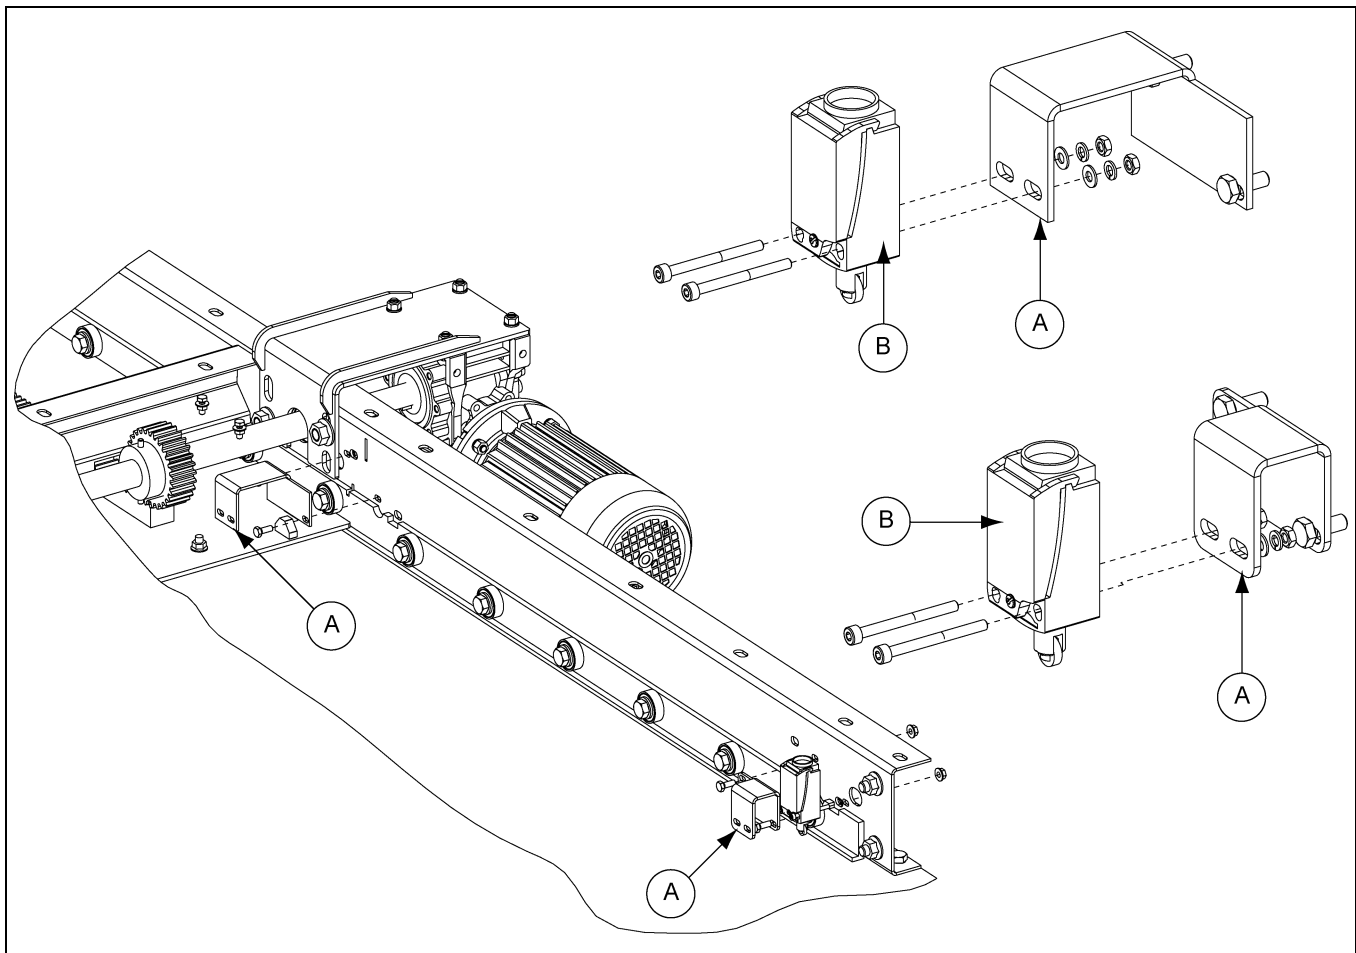

Figure 3J Installing the Limit Switch
1. Using limit switches that are available in STD and ATEX or explosion proof standards, achieves accurate positioning of these gates. Limit switches (B) are located on both sides of the frame to detect when the gate is completely open or closed. (See Figure 3J.)
2. Attach the switch brackets (A) to the inside of the gate as shown using hardware provided. (See Figure 3J.) Attach limit switch (B) to the bracket as shown in Figure 3J.
4. Disconnect the power at the electrical panel and run the proper gauge electrical wire to the motors and limit switches. (See Wiring Diagram on Page 22.) **Be sure that the limit switches (B) are adjusted properly before operating the gate.** Turn the power back ON and CAUTIOUSLY operate the gate, opening and closing the gate slide, making the necessary adjustments to the limit switch arms to assure complete opening and closing of the gate.